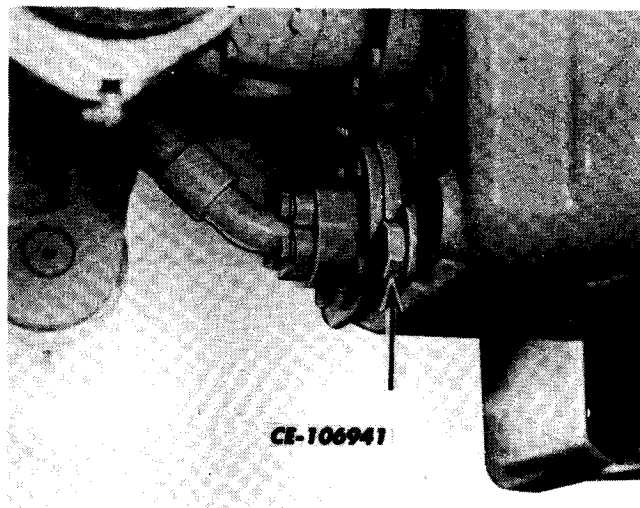

Fig. 8
5. If the oil level is above the center of the high oil level sight gauge, drain excess oil at the drain plug (Fig. 8).
2. Remove the drain plug (Fig. 8) immediately after operation while the lubricant is still warm.